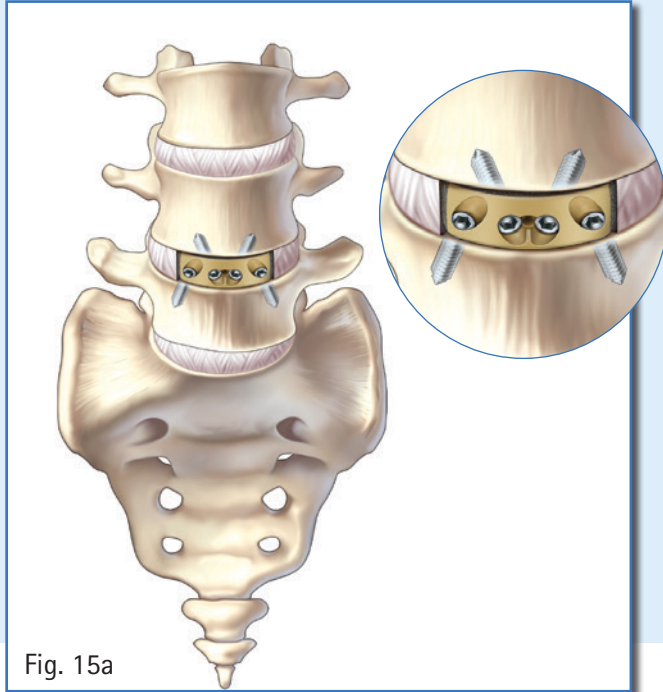

Fig. 15a
- AP and lateral views of a fully assembled construct are shown above. (Fig. 15a and 15b).